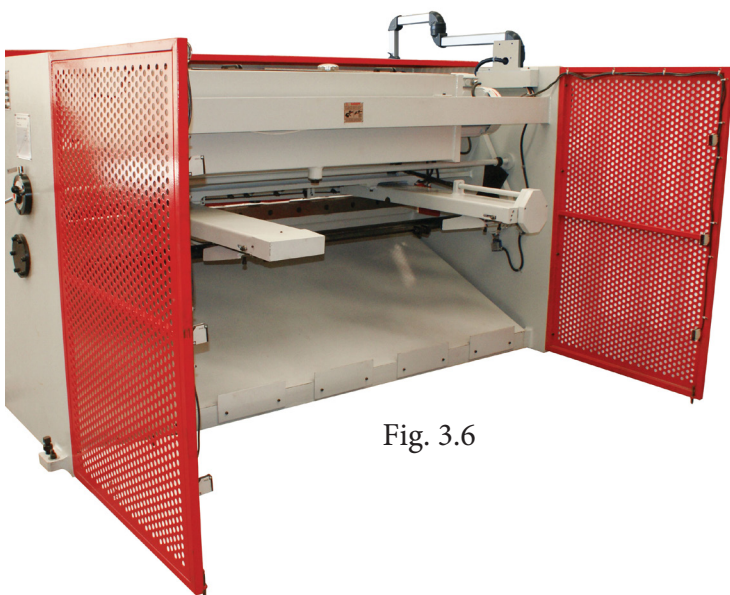

Fig. 3.6
- Unpack and attach the rear fence to the back of the machine. Ensure that the sensors have been connected and set up. (Fig.3.6)